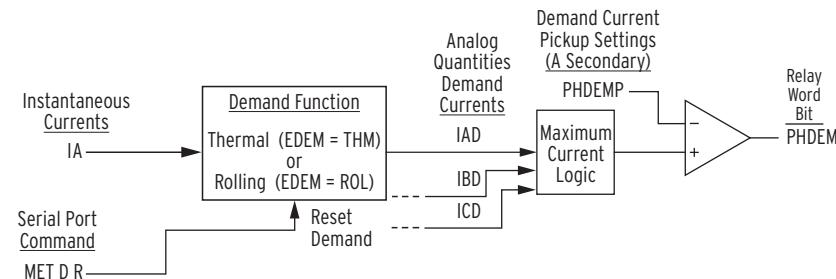
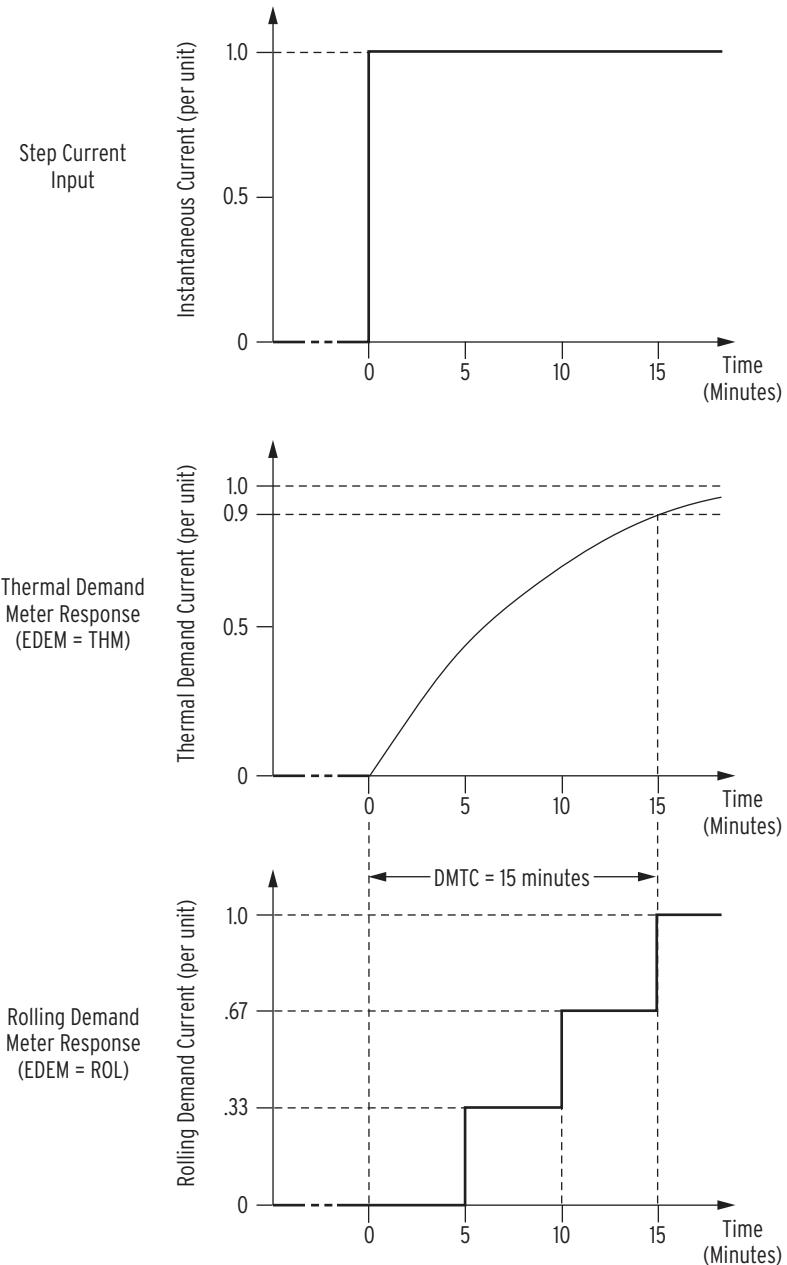
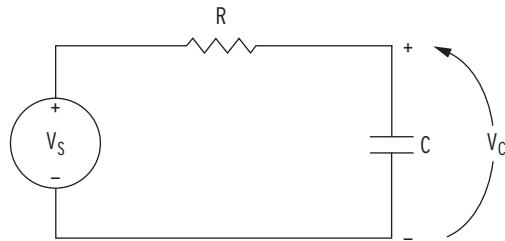

Figure 4.53 Demand Current Logic Outputs
Figure 4.54 Response of Thermal and Rolling Demand Meters to a Step Input (Setting DMTC = 15 minutes)
Figure 4.55 Voltage V_S Applied to Series RC Circuit
The demand current level settings are applied to demand current meter outputs as shown in *Figure 4.53*.
The example in *Figure 4.54* shows the response of thermal and rolling demand meters to a step current input. The current input is at a magnitude of zero and then suddenly goes to an instantaneous level of 1.0 per unit (a “step”).
The response of the thermal demand meter in *Figure 4.54* (middle) to the step current input (top) is analogous to the series RC circuit in *Figure 4.55*.
- Voltage V_S in *Figure 4.55* corresponds to the step current input in *Figure 4.54* (top).
- Voltage V_C across the capacitor in *Figure 4.55* corresponds to the response of the thermal demand meter in *Figure 4.54* (middle).
If voltage V_S in *Figure 4.55* has been at zero ($V_S = 0.0$ per unit) for some time, voltage V_C across the capacitor in *Figure 4.55* is also at zero ($V_C = 0.0$ per unit). If voltage V_S is suddenly stepped up to some constant value ($V_S = 1.0$ per unit), voltage V_C across the capacitor starts to rise toward the 1.0 per unit value. This voltage rise across the capacitor is analogous to the response of the thermal demand meter in *Figure 4.53* (middle) to the step current input (top).
In general, as voltage V_C across the capacitor in *Figure 4.55* cannot change instantaneously, the thermal demand meter response is not immediate either for the increasing or decreasing applied instantaneous current. The thermal demand meter response time is based on the demand meter time constant setting DMTC (see *Table 4.47*). Note in *Figure 4.54*, the thermal demand meter response (middle) is at 90 percent (0.9 per unit) of full applied value (1.0 per unit) after a time period equal to setting DMTC = 15 minutes, referenced to when the step current input is first applied.
The response of the rolling demand meter in *Figure 4.54* (bottom) to the step current input (top) is calculated with a sliding time-window arithmetic average calculation. The width of the sliding time-window is equal to the demand meter time constant setting DMTC (see *Table 4.47*). Note in *Figure 4.54*, the rolling demand meter response (bottom) is at 100 percent (1.0 per unit) of full applied value (1.0 per unit) after a time period equal to setting DMTC = 15 minutes, referenced to when the step current input is first applied.
The rolling demand meter integrates the applied signal (e.g., step current) input in five-minute intervals. The integration is performed approximately every second. The average value for an integrated five-minute interval is derived and stored as a five-minute total. The rolling demand meter then averages a number of the five-minute totals to produce the rolling demand meter response. In the *Figure 4.54* example, the rolling demand meter
The following is a step-by-step calculation of the rolling demand response example in *Figure 4.54* (bottom).
peak demand. See *Figure 4.53* for the demand current logic diagram. You should assign a contact input (for example, RSTTRGT := IN04) to each of these settings if you want remote reset.